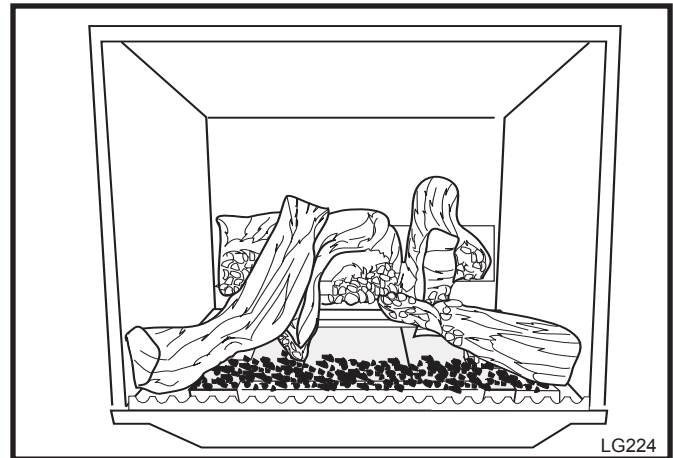

Fig. 16 Stardance logs in place.
5. Loosely sprinkle the lava rocks directly on top of the burner just behind decorative grate. (Fig. 16) Do not place lava rocks toward back of burner. The lava rock is shipped inside the bag assembly.